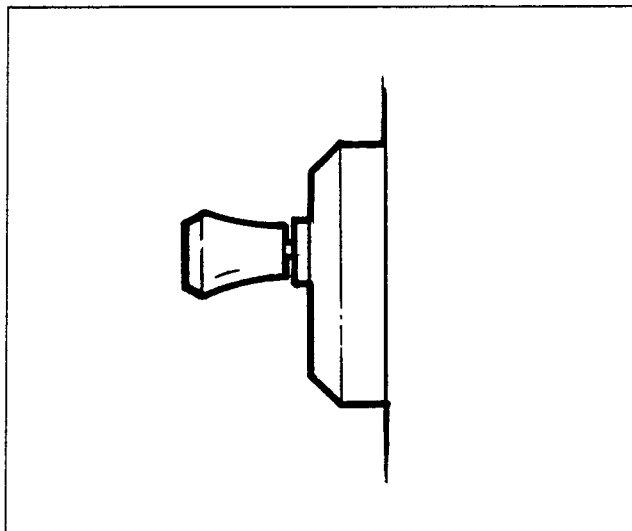

Figure 3. Enrichener Knob fully In
3. See Figure 3. Then push enrichener knob fully in.
Open throttle 1/8-1/4. Turn on ignition switch and operate electric starter. See Figure 3. DO NOT USE ENRICHENER.
Open throttle 1/8-1/4. Turn on ignition switch and operate electric starter. See Figure 3. **DO NOT USE ENRICHENER.**